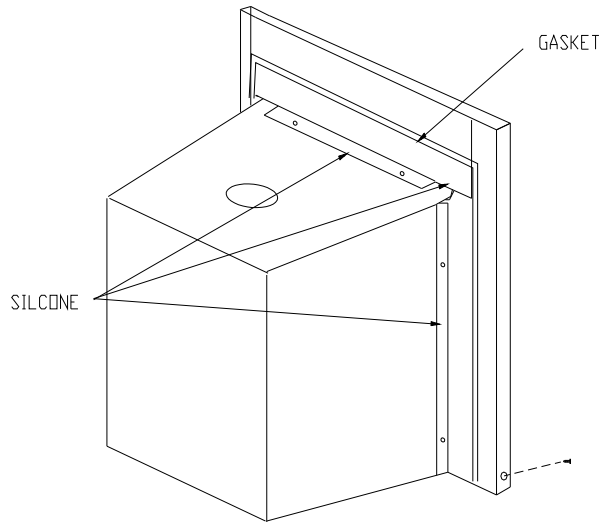

FIGURE 4
8. Using insulation provided peel and stick to back of panels overlapping fireplace dimension by 1" each side on top. (See Figure 4)
9. Next using high silicone or furnace cement run bead of caulking on backside of panel where they meet stove. (See Figure 4)